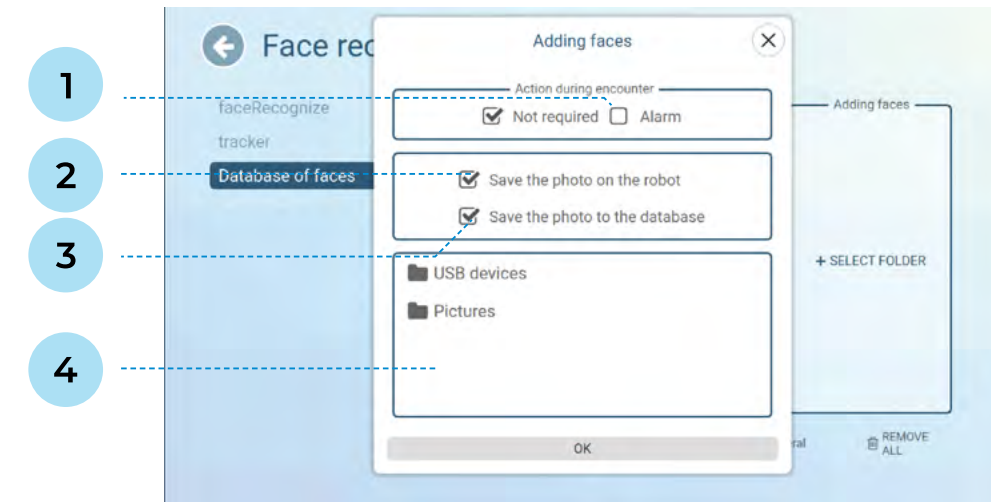

Figure 6.17. Adding a photo of the person to the face database
- Select folder** — here you can upload photos of people so that the robot knows them in advance, and the person does not have to go through the procedure of acquaintance when meeting the robot (Figure 6.17).